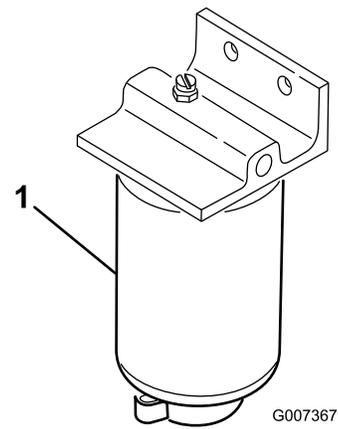

Figure 63
1. Place a clean container under the fuel-filter canister (Figure 63).